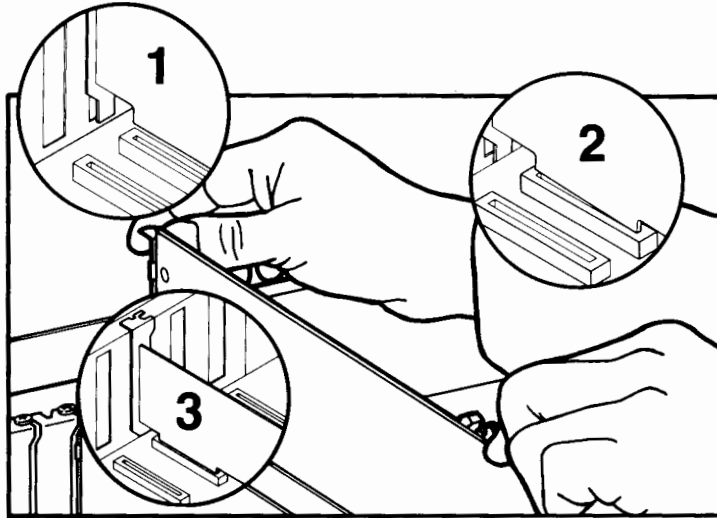

Figure 2-5. Installing the Interface Card
7. Position the interface card as shown in Figure 2-5. Insert the card into the slot and press the card down firmly as shown in Figure 2-5. Make sure the plug-in connector is fully seated into the slot socket. If you are having difficulty fitting the card in the slot, you may need to adjust the position of an adjacent slot cover or support bracket to allow more room for the card.